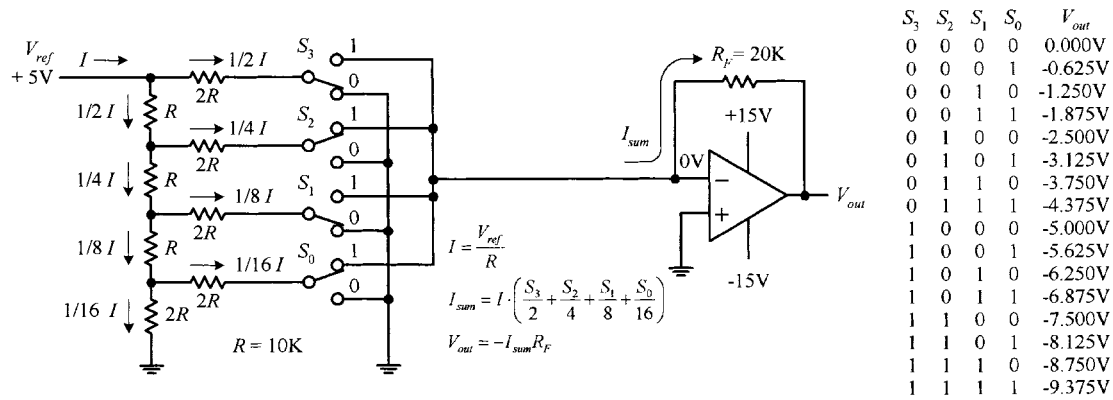
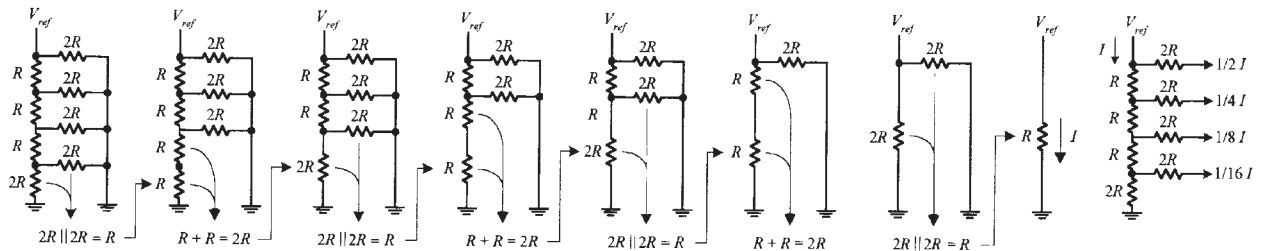

FIGURE 12.118
FIGURE 12.119
An R/2R DAC uses an R/2R resistor ladder network instead of a scaled-resistor network, as was the case in the previous DAC. The benefit of using the R/2R ladder is that we need only two resistor values: R and 2R. Figure 12.118 shows a simple 4-bit R/2R DAC. For now, assume that the switches are digitally controlled (in real DACs, they are replaced with transistors).
The trick to understanding how the R/2R ladder works is realizing that the current drawn through any one switch is always the same, no matter if it is thrown up or down. If a switch is thrown down, current will flow through the switch into ground (0 V). If a switch is thrown up, current will flow toward virtual ground—located at the op amp’s inverting input (recall that if the noninverting input of an op amp is set to 0 V, the op amp will make the inverting input 0 V, via negative feedback). Once you realize that the current through any given switch is always constant, you can figure that the total current (I) supplied by V_{ref} will be constant as well. Once you have that, you figure out what fractions of the total current pass through each of the branches within the R/2R network using simple circuit analysis. Figure 12.118 shows that 1/2 I passes through S₃ (MSB switch), 1/4 I through S₂, 1/8 I through S₁, and 1/16 I through S₀ (LSB switch). If you’re interested in how that was figured out, the circuit reduction shown in Fig. 12.119 should help.
0101 (5), $\frac{1}{4}I + \frac{1}{16}I$ combine to form I_{sum} . But what is I ? Using Ohm's law, it's just $I = V_{\text{ref}} / R = +5 \text{ V} / 10 \text{ k}\Omega = 500 \mu\text{A}$. This means that $I_{\text{sum}} = \frac{1}{4}(500 \mu\text{A}) + \frac{1}{16}(500 \mu\text{A}) = 156.25 \mu\text{A}$. The final output voltage is determined by $V_{\text{out}} = -I_{\text{sum}}R_F = -(156.25 \mu\text{A})(20 \text{ k}\Omega) = -3.125 \text{ V}$. The formulas and the table in Fig. 12.118 show the other possible binary/analog combinations.